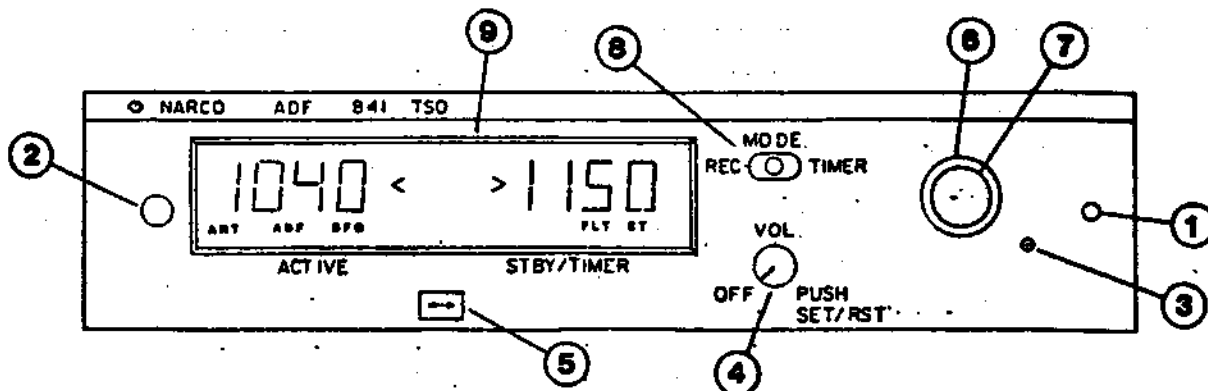

FIGURE 3-1 ADF-841 TSO FRONT PANEL
3.4 ADF-841 TSO RECEIVER OPERATING PROCEDURES (Refer to Figure 3-1)